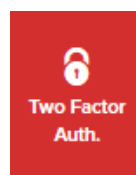

Figure 11. Partner Portal (Two Factor Auth. icon)
4. Click the **Two Factor Auth.** link on the left-hand side of the web page (Figure 11 \(page 42\)).